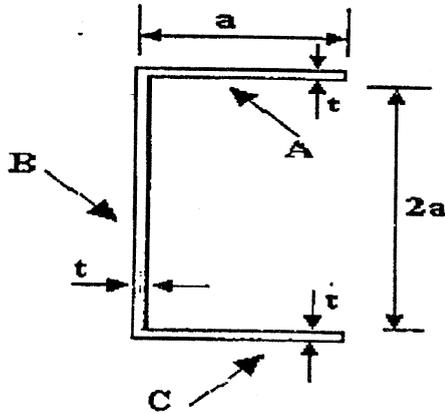

Figure: 2
9. Determine the Shear Centre for the Channel Section as shown in figure 2.